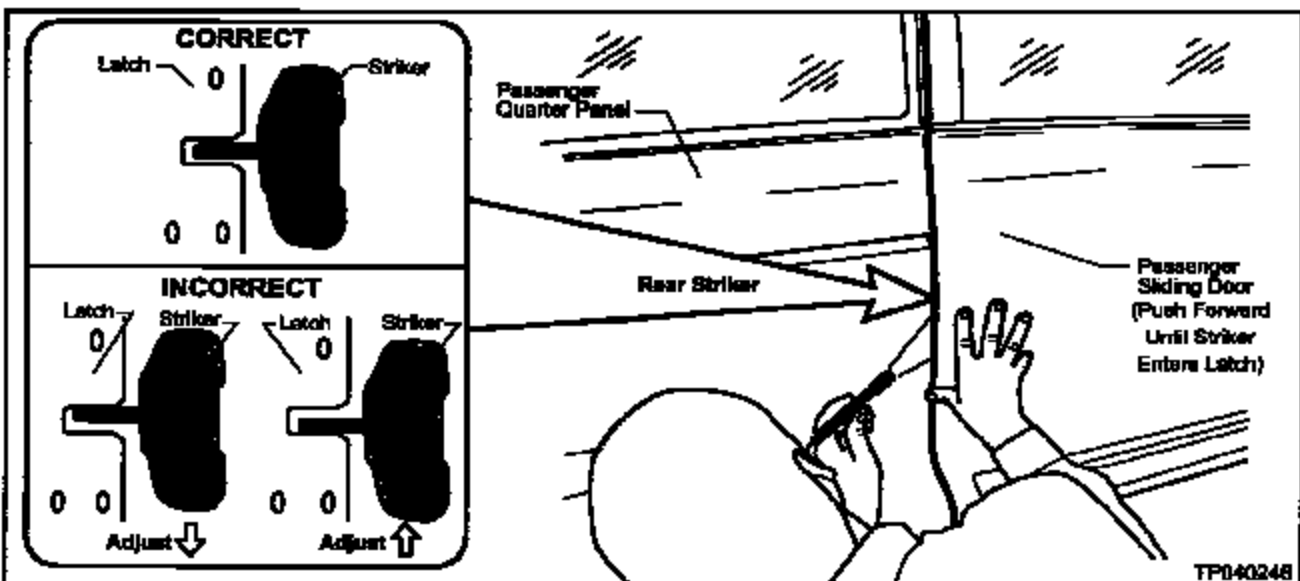

Figure J31 (Rear Striker)
- Between the Rear Striker and Latch (see Figure J31).